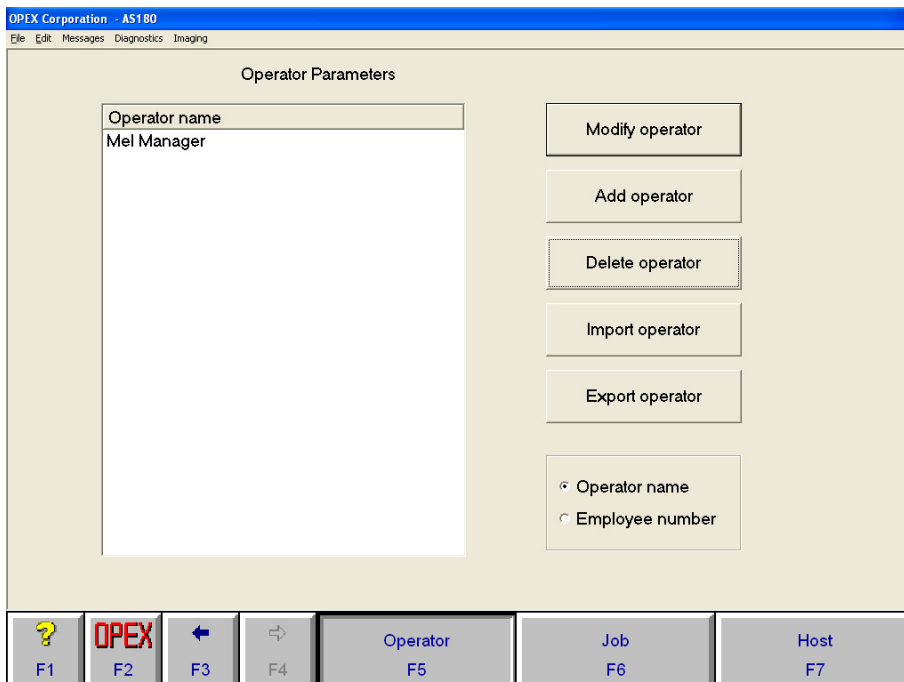

FIGURE 24: Operator Parameters screen
- 2 Highlight the operator account you wish to modify and click **Modify Operator** (see Figure 24).